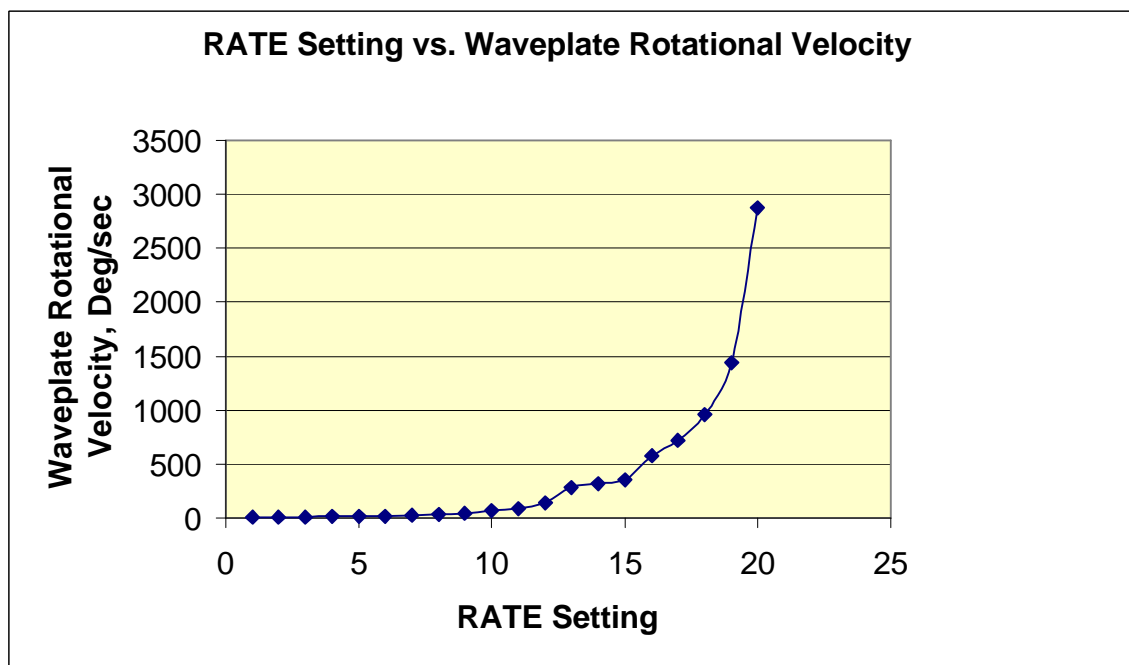

Figure 7: RATE value vs. angular velocity of Lefèvre waveplates for the MPC1 series.
The relationship between the RATE identifier and the angular velocity, in Stokes 3-space, is shown in Figure 7; a convenient tabular form of the graph appears at the end of this section (4.2.6) in Table 6.
- Refer to Figure 7 to correlate rate value setting to angular speed.